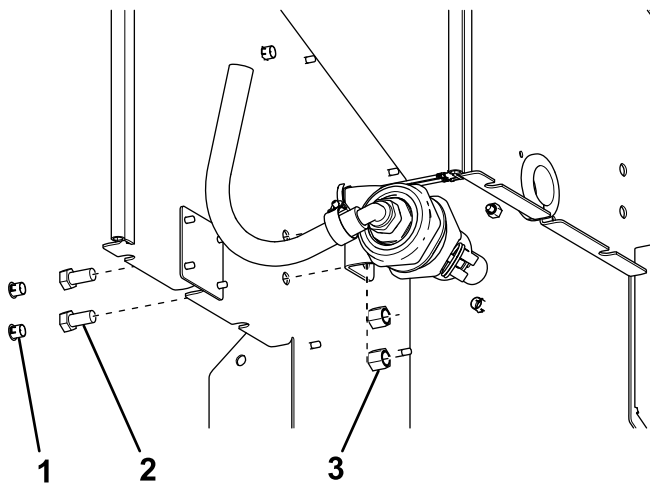

Figure 12
- For Forge 2.0 pintle chain spreaders, remove the 2 plugs on the rear cover and mount the bracket through them as shown in Figure 12.